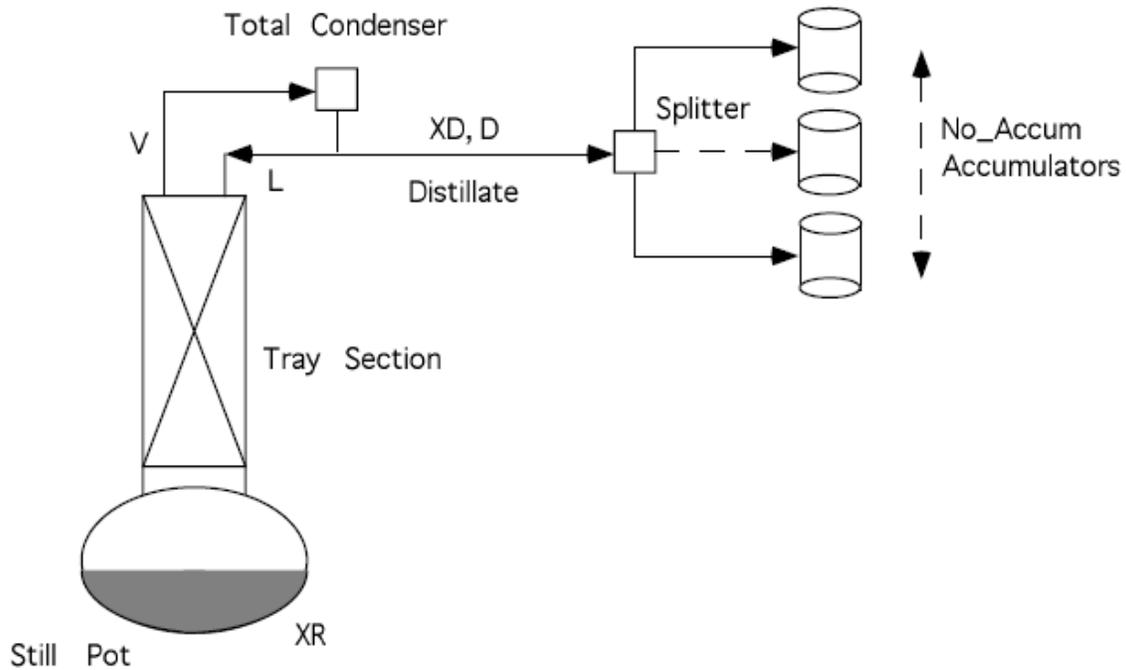

Figure 1: Flowsheet for Batch Rectifier and Associated Equipment
This example uses a more complex model to simulate a separation similar to the first distillation task in the ICE process. The model is of the flowsheet shown in Figure 1, which contains a batch rectifier and a number of accumulators to collect overhead cuts. The number of accumulators can be changed by changing the value of an integer parameter in the flowsheet model.
- a MODEL block RectifierFlowsheet that models the entire flowsheet shown in Figure 1. It creates instances of BatchRectifier, Splitter, and a number of Accumulators determined by the integer parameter No_Accum (two accumulators initially). The Equation section connects the streams of these model instances together. Also, the number of chemical components in the flowsheet is given, and values are specified for physical property parameters related to pure component vapor pressure and binary parameters for the Wilson model.